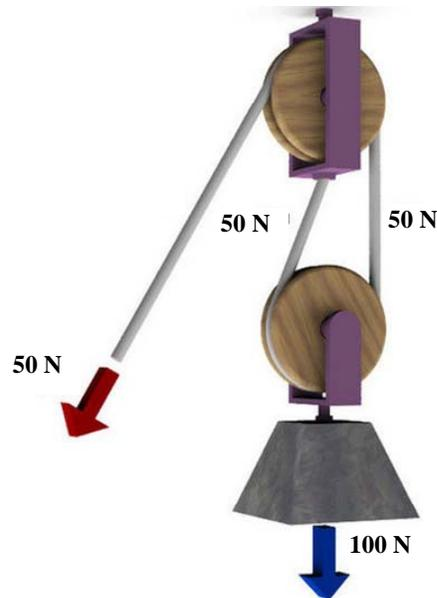

Figure 4.8: Compound pulley.
The pulleys shown in figure 4.8 called compound pulley system:
- The main disadvantage is it travels a very long distance. Figure 4.8 shows that a 100 N load needs 50N effort to hold it steady.